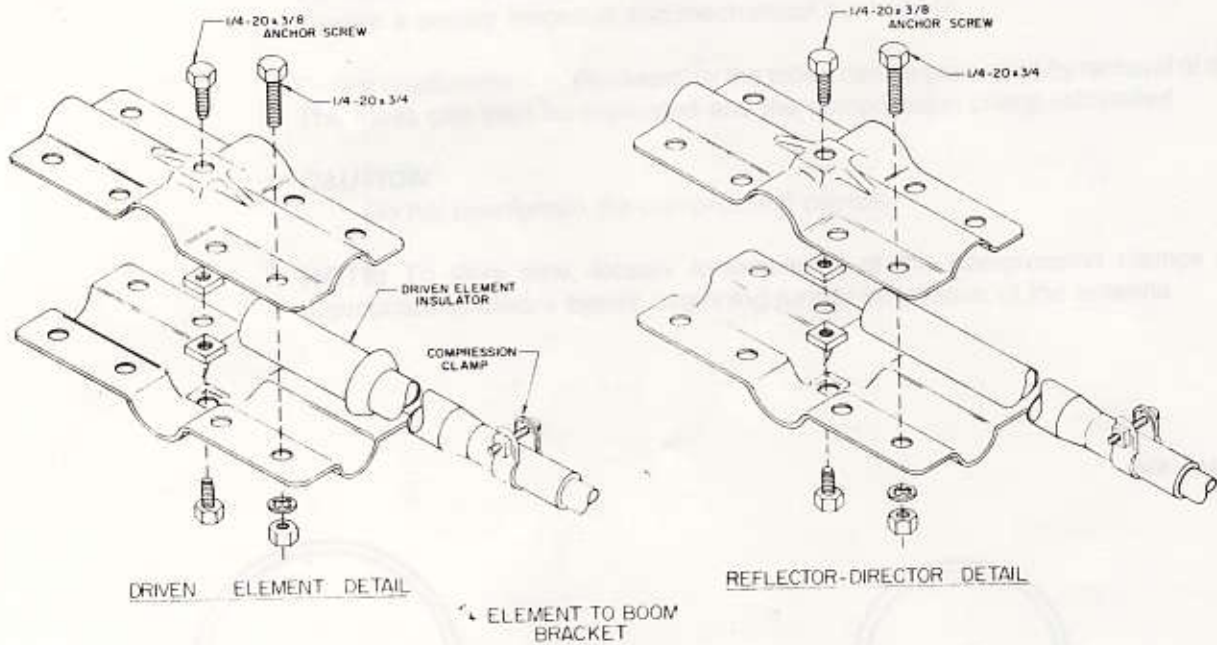

Figure 6
Select the element-to-boom brackets and insert the 1/4"-20 x 3/8" anchor screws and 1/4" nuts as shown in Figure 6.
Slip the insulated end of the driven element into the bracket assembled on the boom. Tighten the screws to hold the element securely but *do not tighten the anchor screw (item 25) at this time*. Refer to Figure 6.